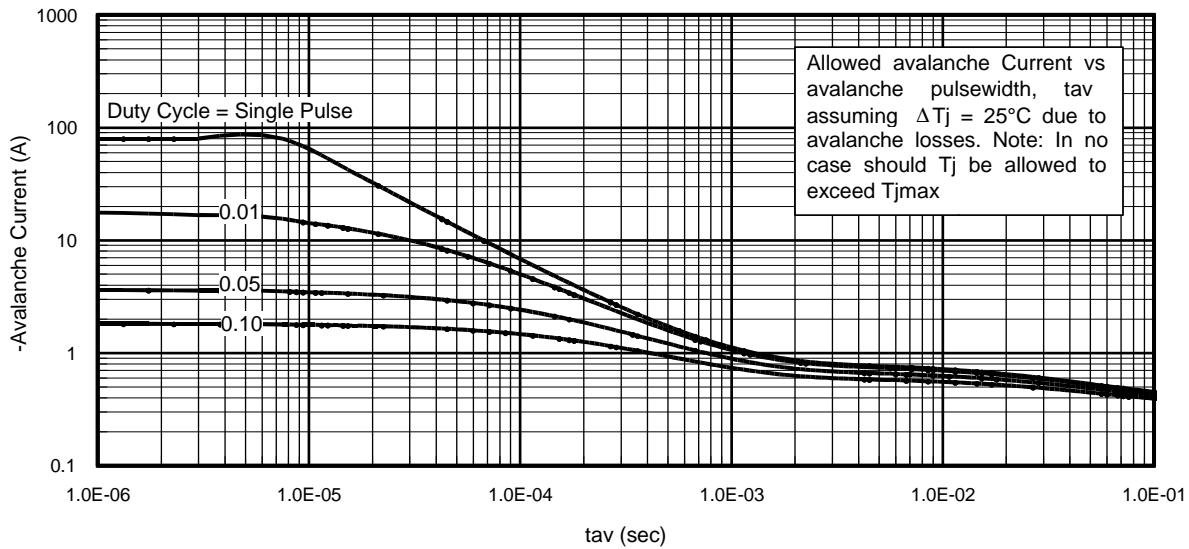

Fig 14. Typical Avalanche Current Vs.Pulsewidth
Notes on Repetitive Avalanche Curves , Figures 14, 15:
7. $\Delta T = \text{Allowable rise in junction temperature, not to exceed } T_{jmax} \text{ (assumed as } 25^\circ\text{C in Figure 14, 15).}$
- ① Repetitive rating; pulse width limited by max. junction temperature.
- ② Starting $T_J = 25^\circ\text{C}$, $L = 3.89\text{mH}$, $R_G = 25\Omega$, $I_{AS} = -10\text{A}$.
- ③ Pulse width $\leq 400\mu\text{s}$; duty cycle $\leq 2\%$.
- ④ R_θ is measured at T_J of approximately 90°C .
- ⑤ Limited by $T_{J\max}$. See Figs. 14, 15, 17a, 17b for repetitive avalanche information